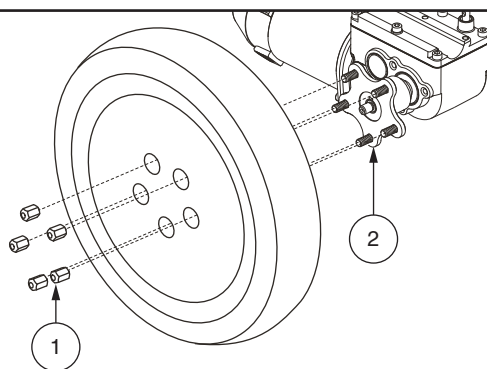

Figure 18. Q6 Edge 2.0 Drive Wheel
4. Remove the five (5) lug nuts from the wheel hub. **See figure 18.**